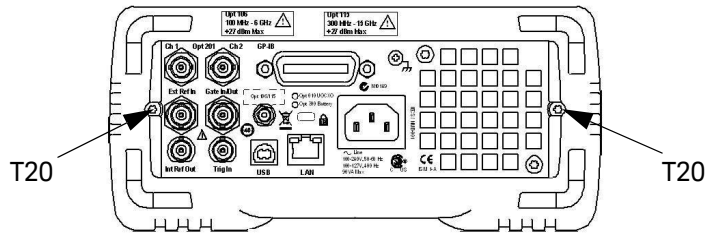

Figure 3-2 Rear Bezel And Cover Removal
- 3 To remove the rear bezel and cover, loosen the captive screws on the sides as shown in Figure 3-2, using the TORX 20 screwdriver.